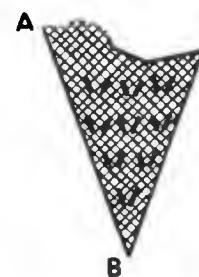

Fig. 3. Bridle.
**Bridle.** A strip of tape or unstretchable material sewed on the canvas along or just behind the breakline fold or creaseline (Fig. 3, A-B). This prevents that line from stretching and insures better fit over the bustline.